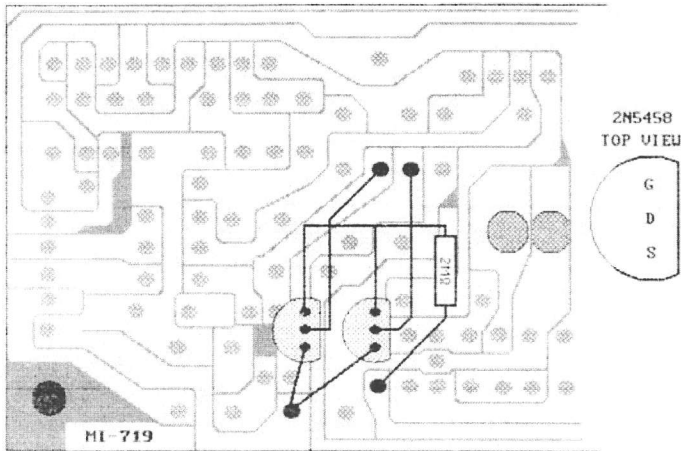

Fig. 2. Input board left side
1. Remove input board and install FET's and 2 M $\Omega$  resistors as indicated in Fig. 2 and 3. All components must be installed on the foil side of the board. Re-install board.